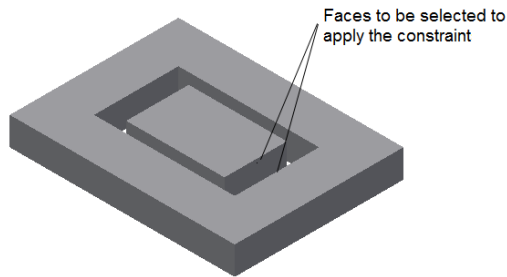

Figure 18-38 Faces selected to apply the **Mate** constraint
- g. Modify the dimensions of the inner cavity of the Outer Plate. The size of the Inner Plate again changes automatically to retain the design intent, refer to Figure 18-38.
10. Now, change the display type of both the plates to **Shaded** and apply the **Mate** constraint with an offset value of 10 mm between the selected faces, as shown in Figure 18-38. Also, You will see that the size of the Inner Plate is reduced in order to fit inside the cavity of the Outer Plate. This is because of the adaptive property of the Inner Plate.